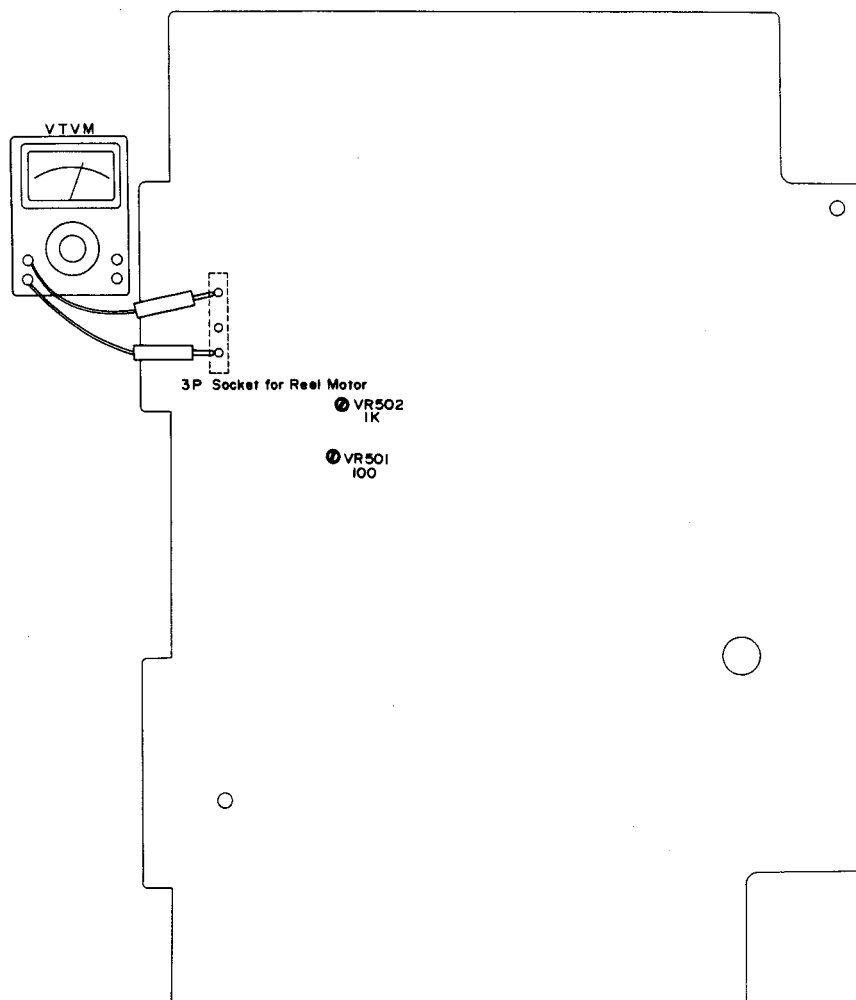

Figure 28.
1. REWIND TENSION ADJUSTMENT (See Figure 28.)
2. REWIND TORQUE ADJUSTMENT (See figure 28.)